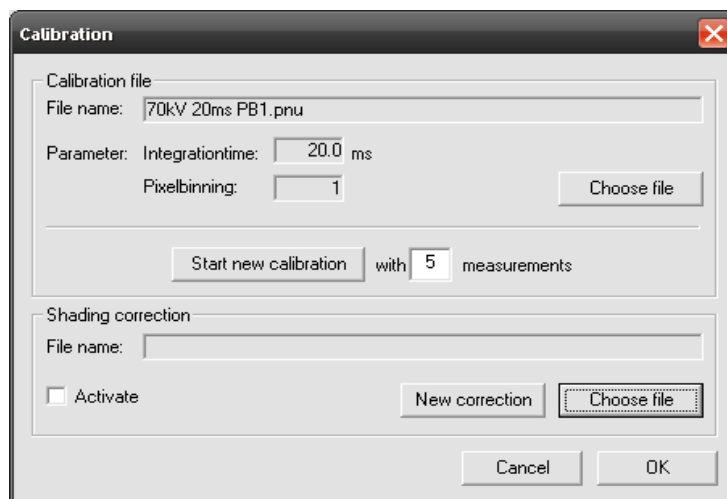

Figure 6
4. To open the dialog for the scanner calibration (see Figure 6), click on the button "Calibration" to open the calibration dialog: